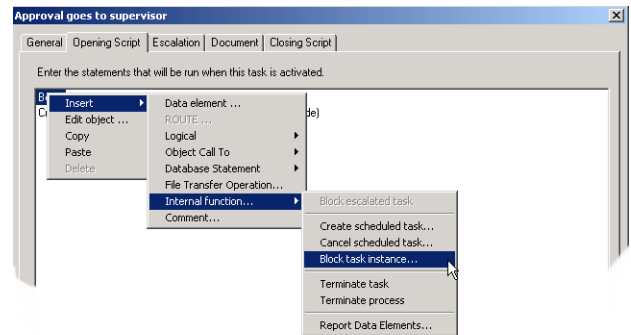

Figure 31-17. Task Configuration dialog with the Block Task Instance function selected.
- 1 To block a task instance, click on the **Opening** or **Closing Script** tab, right-click on a statement, select the **Insert** drop-down menu, select the **Internal Functions** drop-down menu, then select **Block Task Instance** (see Figure 31-17, below).